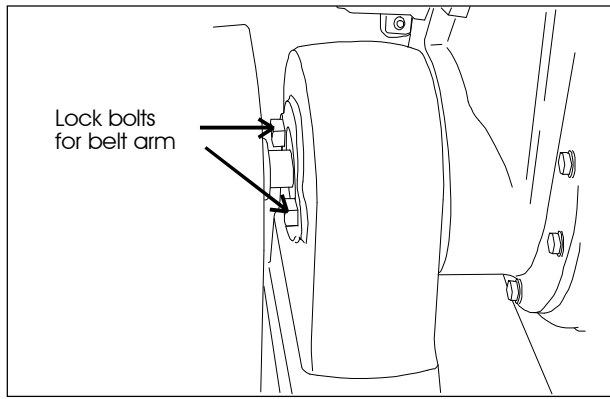

Figure 5: Lock bolts for belt arm
1. Unlock both of the lock bolts. These are located under the arbor cover. (See Figure 5.)
1. Unlock both of the lock bolts. (See Figure 5.)